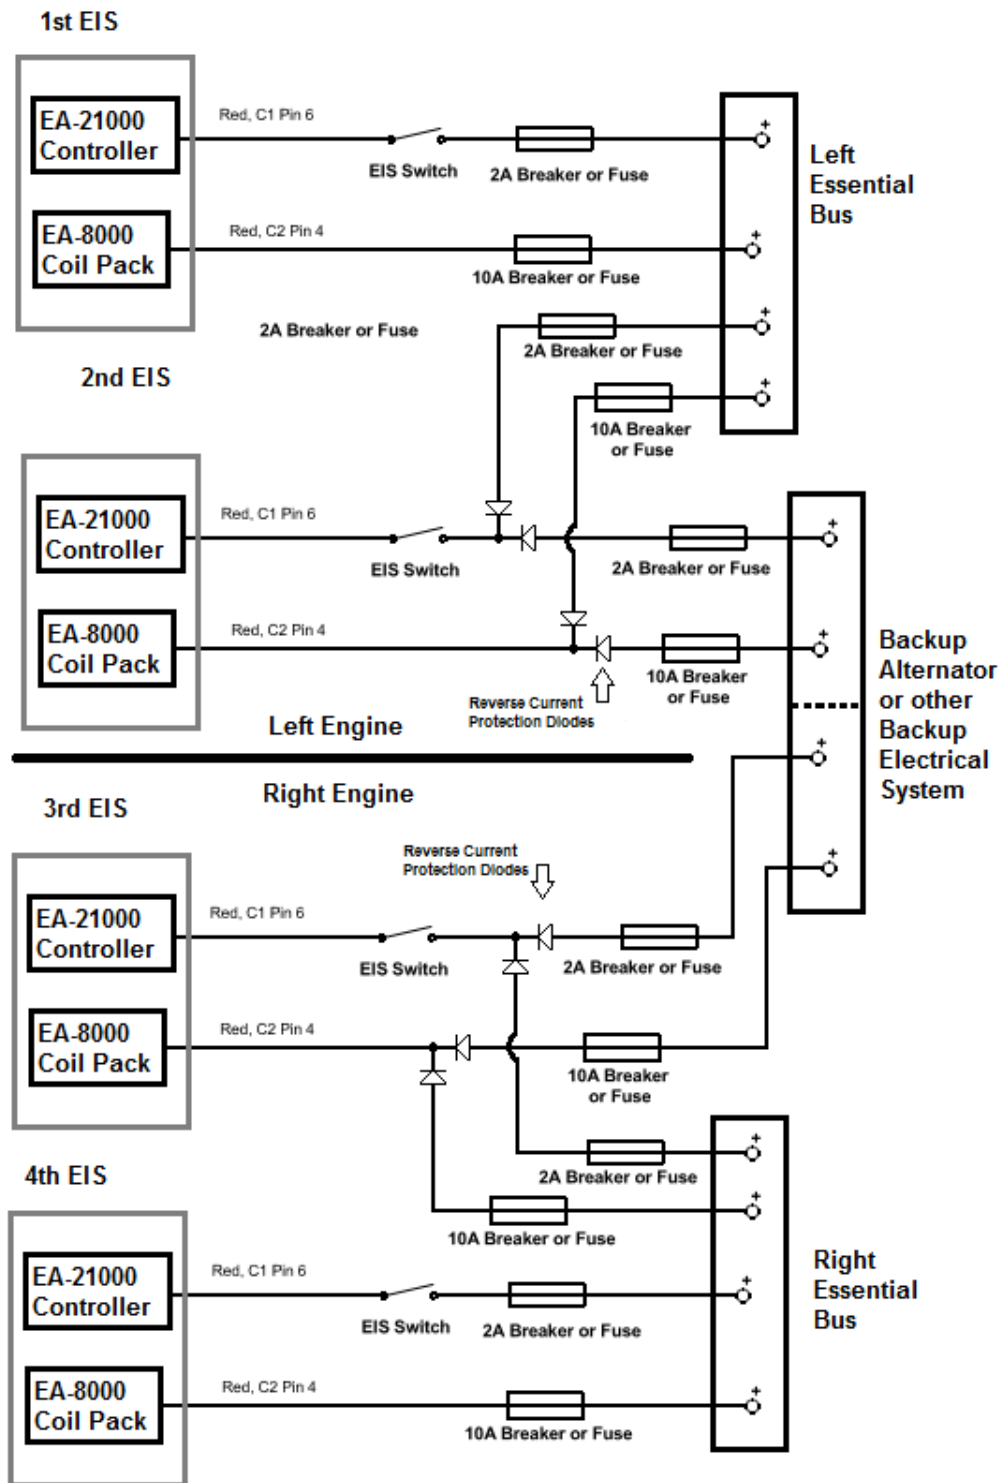

Figure 21: Twin Engine, Dual EIS, Dual Electrical System Power Connections
- v. **Dual EIS installation on both (twin) engines with dual electrical systems:** At least one backup alternator or backup electrical system will be needed. Connect C2-Pin 4 and C1-Pin 6 of one EIS from each engine to one electrical system (through 10A and 2A breaker or fuses). Connect C2-Pin 4 and C1-Pin 6 of one EIS on each engine to the backup alternator(s) using current protection diodes, or backup electrical system(s) (through 10A and 2A breaker or fuses). See Figure 21.